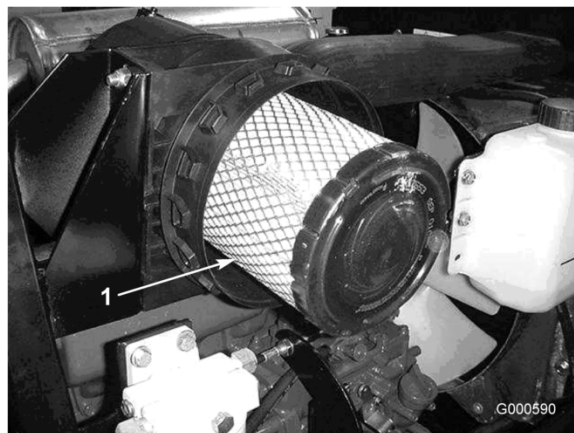

Figure 32
3. Remove and replace the primary filter (Figure 32).